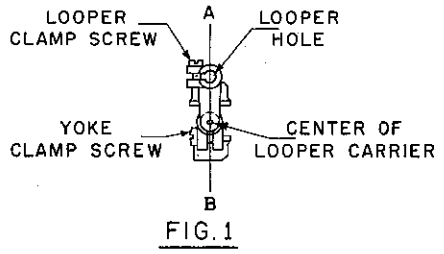
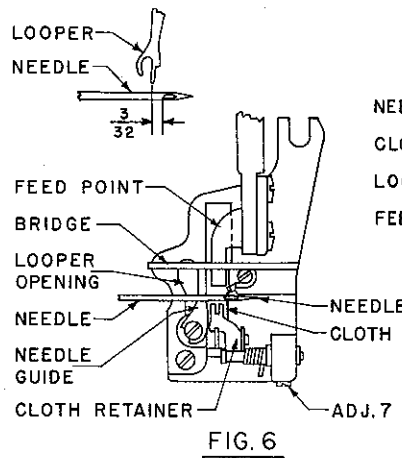
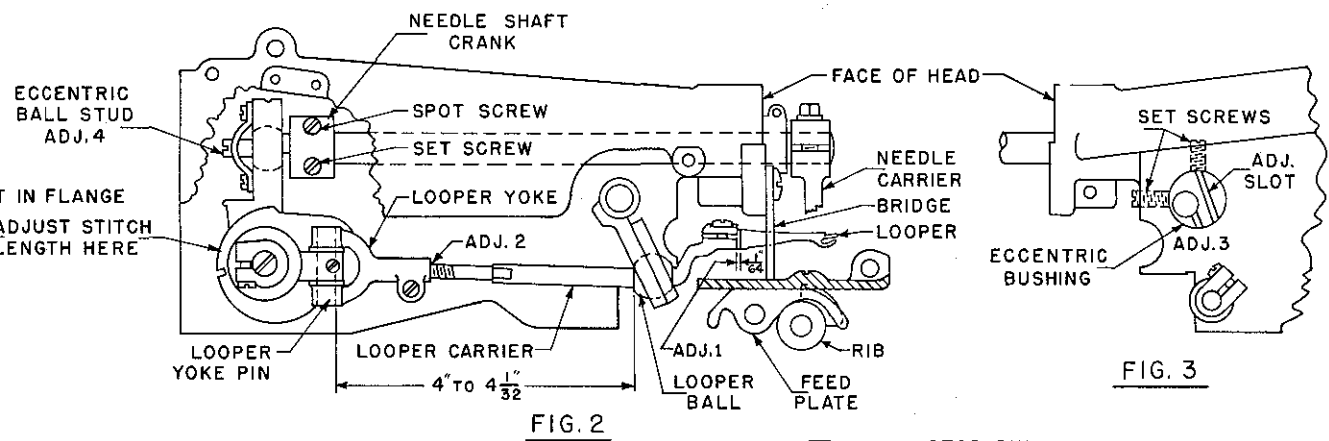
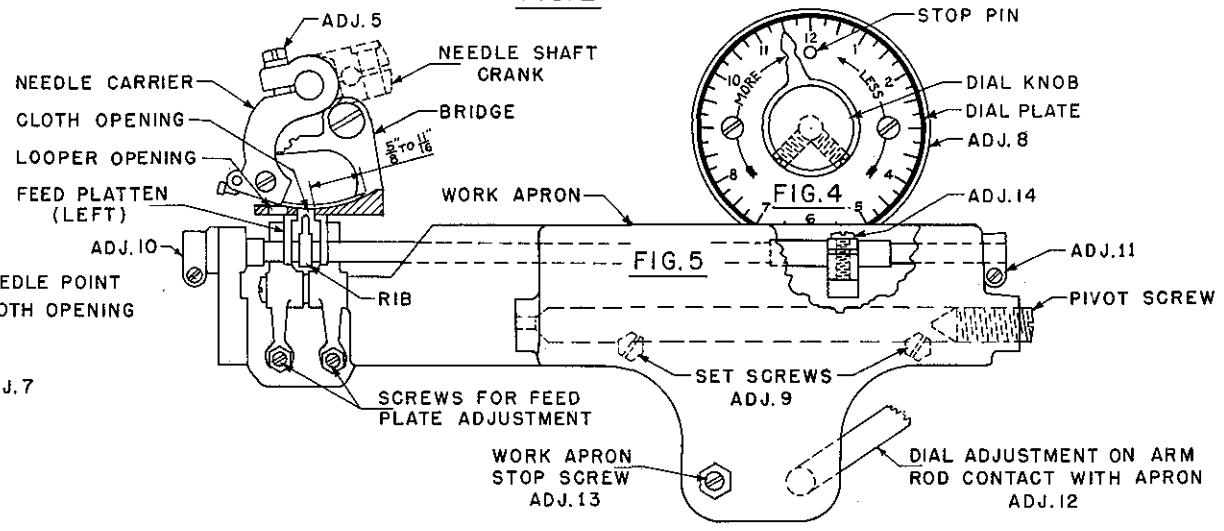

FIG. 1
FIG. 6
FIG. 2
FIG. 5
31. Continue to rotate hand wheel until the needle is at the end of needle stroke on the right hand side, see figure 5; at this position the point of the needle must be from  $\frac{5}{8}$ " to  $\frac{11}{16}$ " from the right hand side of the cloth opening on the presser foot. This setting is made by loosening the clamp screw holding the needle ball in the needle shaft crank, and turning the eccentric ball until the point of the needle is set correctly. See figures 2 and 5, adjustment 4 and 5.
32. The needle must be in contact with the needle guide when the needle point is from  $\frac{1}{64}$ " to  $\frac{1}{32}$ " from the left hand side of the cloth opening in the presser foot, Figure 6.
33. Adjust work apron so that left hand feed platten is flush with left hand side of cloth opening in presser foot. The adjustment is made by loosening two hexagon set screws in up right arm of the machine base, under the work apron holding the work apron shaft; slide the apron in correct position, and tighten the two set screws, Adjustment 9, Figure 5.
34. Set needle over highest part of rib, and adjust work apron to raise needle from the needle guide  $1/64''$ . The adjustment is made with the work apron stop screw. Adjustment 13, Figure 5. When set tighten lock nut.
38. Set feed platten, figure 5, so that they will depress  $1/32''$  when in contact with the bottom of presser foot, after adjustment of foot and apron has been made. The setting is made by adjusting the feed platten carrier adjusting screws, and tighten lock nuts.
39. To set depth of feed, figure 6, adjustment 5, first turn hand wheel until needle point when approaching from the left is flush with left hand side of cloth opening in presser foot. Loosen the two feed clamp screws, and set feed so that a  $.003''$  shim or newspaper will just be clamped between the top of feed plate, and the bottom of the presser foot. The feed points must be parallel with bottom of foot, tighten the feed clamp screws, and check clearance between feed and looper at all positions.
44. The Rib must be set to be  $3/32''$  from the right hand side of the cloth opening in the presser foot. The adjustment is made by loosening the clamp screws of the Collars on each end of the rib shaft, see adjustment 10 and 11, figure 5. Set the rib in center of the cloth opening and tighten clamp screws. There must be no end play in the rib shaft.
46; Rotate hand wheel in clockwise direction until rib is at extreme end of its stroke with nose of rib under the needle. Loosen clamp screw in crank, adjustment 14, figure 5, and set rib by hand so that point of needle is  $3/32''$  back from nose of rib, and tighten clamp screw.
48. The looper carrier and looper yoke are set before assembling these parts into the machine. Now, the looper ball is positively located on the shaft of the looper carrier by a spot screw. The looper carrier is assembled to the looper yoke, so that the distance from the edge of the looper yoke pin nearest the looper ball, to the side of the looper ball nearest the looper yoke will be 4 to  $4-1/32$  (See Adjusting Chart, Figure 1, Adjustment 2.) The looper hole must be in line with center of looper carrier as shown in Figure 1.
49. The looper is mounted in the looper carrier assembly; allow  $1/64''$  space between looper shoulder and end of looper carrier. (See Figure 2, Adjustment 1.) The Correct assembling of this unit must be understood in case for any reason it is necessary to remove or replace this assembly.
55. Before setting the looper, the looper carrier assembly must be in accordance with instructions for Figure 1, and Figure 2, and the needle setting must be as described in adjustments 4 and 5, Figures 2 and 5.
63. Loosen the looper yoke clamp screw, see Adjustment 2, Figure 2, and roll the looper until the long prong of the looper just brushes the scarf of the needle.
64. Check to see that point of the long prong of the looper just brushes the scarf of the needle, and is  $3/32''$  from the inner end of the needle eye. See Figure 5.
65. Continue to rotate hand wheel in clockwise direction, until the short prong of the looper is at nearest point when passing chaining finger, not exceeding  $1/32''$  - See Figure 6. If the short prong does not clear the chaining finger, or if the clearance is greater than  $1/32''$ , then the previous adjustments have not been correctly made, and these should be re-made.
71. Continue to rotate the hand wheel in a clockwise direction until the point of the long prong of the looper is over the center line of the needle. Check to see that the point of the long prong of the looper is  $1/16''$  to  $3/32''$  from the inner end of eye of the needle, and that the point of the long prong just brushes the scarf of the needle. In case the above conditions do not exist, the eye must be corrected -- this is done as described in the 56 to 65 paragraphs inclusive under the heading "ADJUSTING AND SETTING THE LOOPER". Be sure to roll the looper - Adjustment 2, Figure 2. Do not turn the looper eccentric bushing.
72. The machine, as far as the looper and needle are concerned is now ready to sew. Different materials or different threads may cause a slightly variation from the above adjustments, however, these adjustments will give the best results when padding or hemming the more heavy materials. When hemming silks and cotton, however, it may be advisable to set the point of the needle  $1/16''$  - Figure 6, instead of  $3/32''$ , without changing the looper position by re-adjusting the needle ball stud, Adjustment 4, Figure 2.
73. The cloth retainer located in the cloth opening of the presser foot must at all times be adjusted as close to the needles as possible, and set relative to the ridge forming disc to firmly hold the work onto the disc while the needle is penetrating the material. If the work is carried along with the needle, no loop will form, resulting in missed stitches. See Figure 6, Adjustment 7. To adjust the retainer loosen set screw in foot and turn the cloth retainer eccentric bushing and turn bushing for setting retainer to the needle, and slide to the right or left for setting retainer to the rib, and tighten set screw in the presser foot.